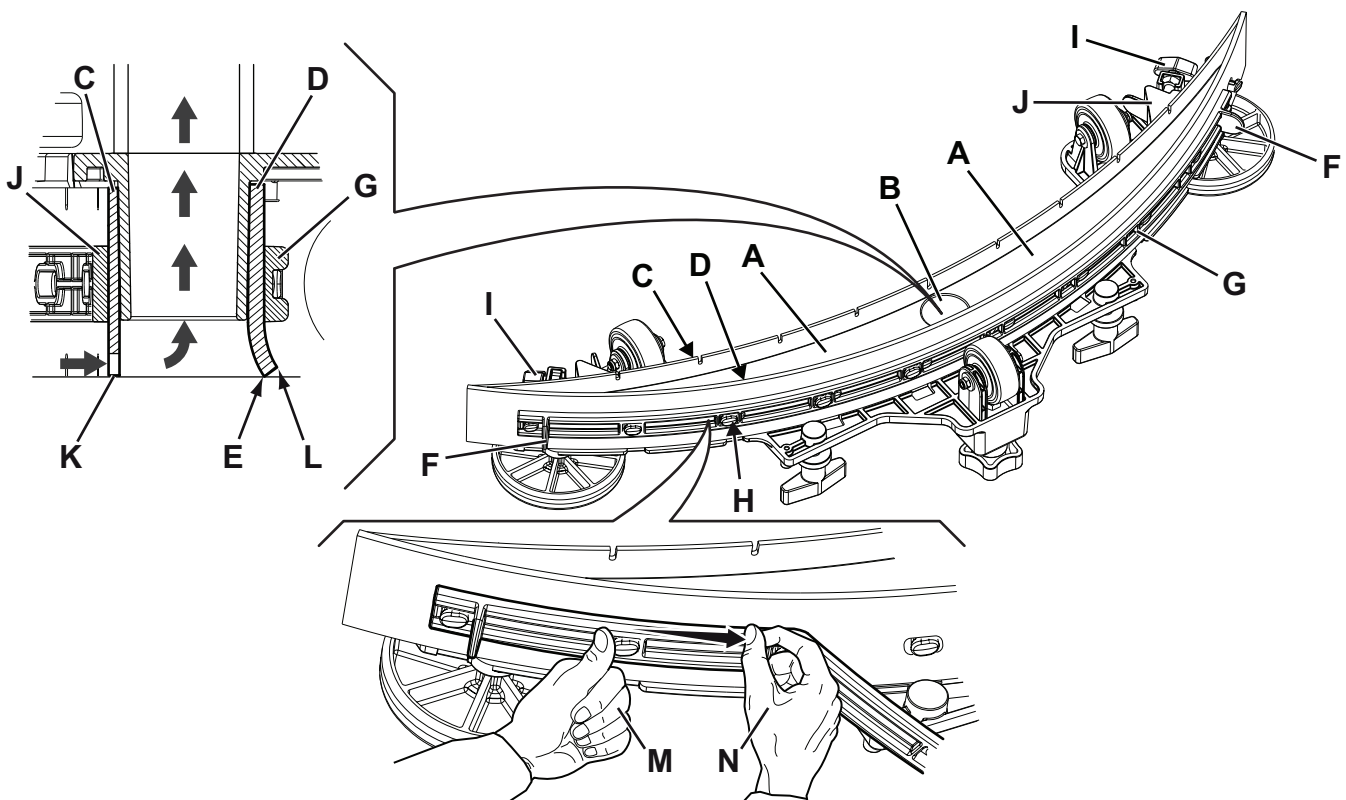

Figure 12
2. Ensure that the machine is off and the user key (51) has been removed.
3. Loosen the handwheels (14) and remove the squeegee (29).
4. Wash and clean the squeegee. In particular, clean the compartments (A, Fig. 12) and the vacuum hole (B). Check the condition of the front (C) and rear (D) blades, ensuring there are no cuts and tears; if necessary, replace them as shown below.
2. Check the condition of the front (C, Fig. 12) and rear (D) blades, ensuring there are no cuts and tears; if necessary, replace them as shown below. Check that the front corner (E) of the rear blade is not worn; otherwise, turn the blade to replace the worn corner with one of the three remaining intact corners. If the other corners are worn too, replace the blade according to the following procedure:
- Using the tab (F), release and remove the elastic strap (G) from the fasteners (H), then turn or replace the rear blade (D).
- Install the blade in the reverse order of removal. Fasten the elastic strap (G) to the fasteners (H) starting from one side. To make the fastening procedure easier, secure the fasteners one at a time, by locking the strap before the fastener with one hand (M) and pulling it with the other hand (N).
- Unscrew the handwheels (I) and remove the strap (J), then turn or replace the front blade (C).
3. Install the squeegee (29) and screw down the handwheels (14).
- Check that the lip (K) of the front blade (C) and the lip (L) of the rear blade (D) are resting as shown in the figure.
- Use the knob (15) to make adjustments.